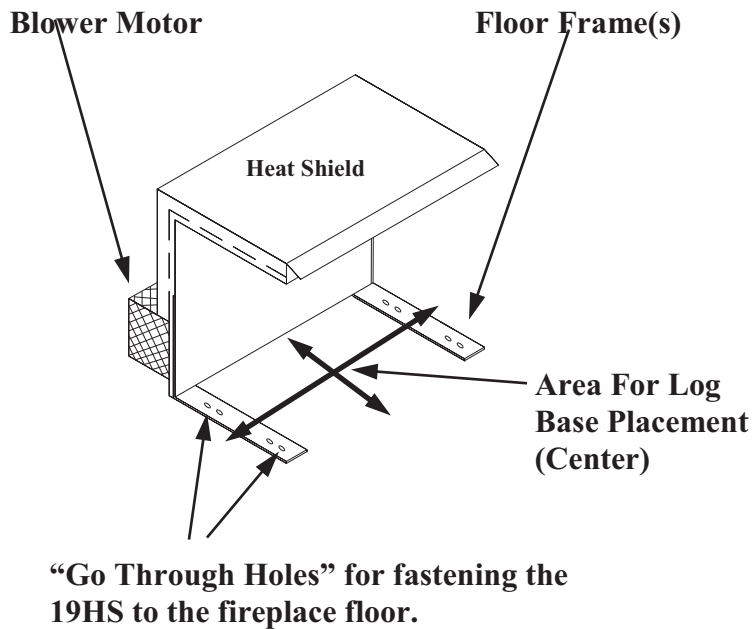
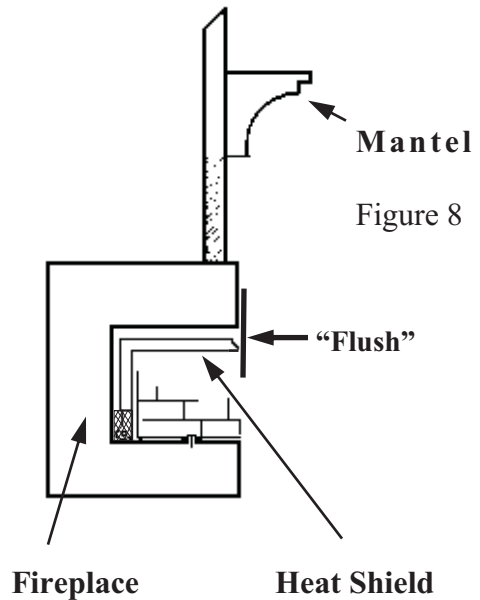

Figure 6.
Figure 8
**NOTE:** Centrally locate the Heat Shield in the fireplace and place it deep enough into the fireplace to accomplish adequate draft (if use as a vented heater is planned). Ensure that the Heat Shield front is inside the front edge of the fireplace. See Figure 8. Using the screws and anchor provided, fasten the Heat Shield to the floor of the fireplace. On each side of floor frame of Heat Shield base, there is a “go through hole”. Position the Heat Shield as described above. Mark the hole for drilling. See Figure 6.